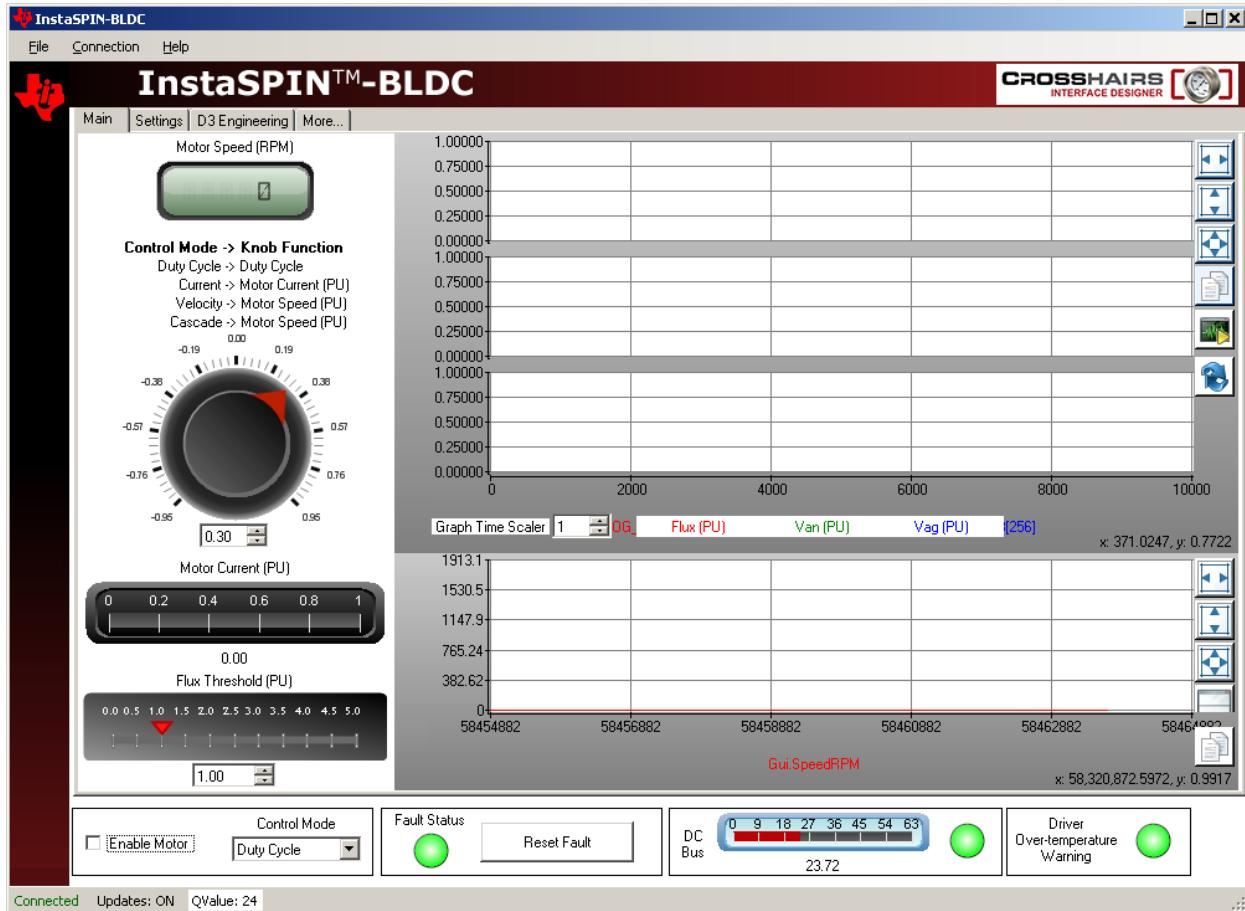

Figure 3. GUI Start-Up Window
1. Navigate to the *Sandstorm\_InstaSpin-BLDC-GUI\_Vxxx.exe* file and double-click it to launch the GUI pop-up window (see Figure 3).